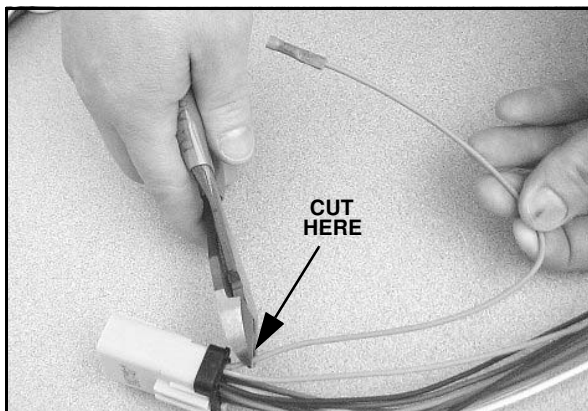

Figure 2
4. Remove the loose gray wire from adapter by cutting wire just behind the male green plug (See Figure 2).